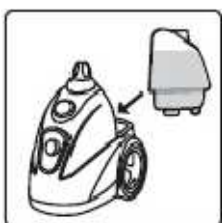

fig.12
3. Replace the cap and place the water tank back on to the base. (fig.12)